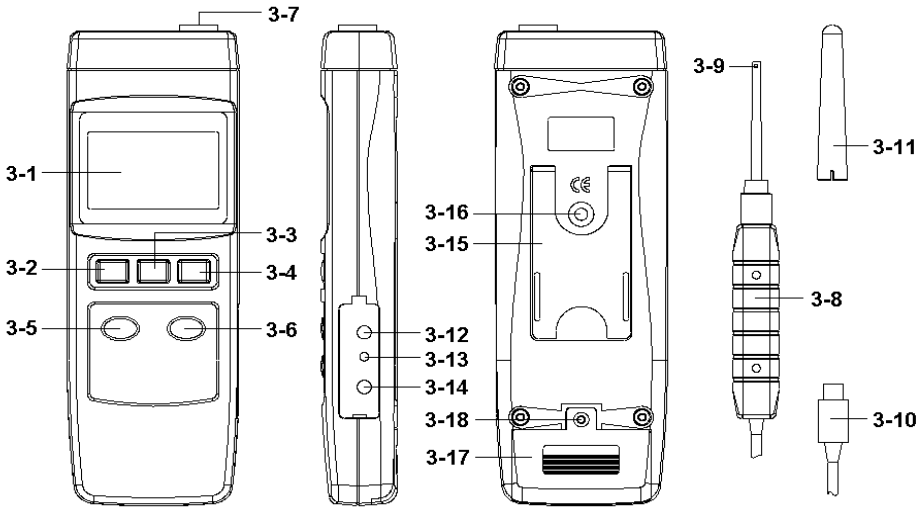

Fig. 1
- 1) Power ON the meter by pressing the " Power Button " ( 3-2, Fig. 1 ) once.
- 2) Press the " Mode Button " ( 3-6, Fig.1 ) once, the Display will show the following screen in sequence :
- \* Before the measurement, fix the probe at the exact position, press the " ZERO Button " ( 3-5, Fig. 1 ) continuously at least two seconds until the display show " 0 " value, in the same time the Display will show the " 0 " indicator then release the finger from the button.
- \* Press the " ZERO Button " ( 3-5, Fig. 1 ) continuously at least two seconds again, the " 0 " indicator will be disappeared and the Display will return to the " no zero " value ( show the environment magnetic field value ).
During the measurement, press the " Hold Button " ( 3-3, Fig. 1 ) once will hold the measured value & the LCD will display a " HOLD " symbol.
- \* The data record function records the maximum and minimum readings. Press the " REC Button " ( 3-4, Fig. 1 ) once to start the Data Record function and there will be a " REC " symbol on the display.
- a) Press the " REC Button " ( 3-4, Fig. 1 ) once, the " REC. MAX " symbol along with the maximum value will appear on the display.
If intend to delete the maximum value, just press the " Hold Button " ( 3-3, Fig. 1 ) once, then the display will show the " REC. " symbol only & execute the memory function continuously.
- b) Press the " REC Button " ( 3-4, Fig. 1 ) again, the " REC. MIN " symbol along with the minimum value will appear on the display.
If intend to delete the minimum value, just press the " Hold Button " ( 3-3, Fig. 1 ) once, then the display will show the " REC. " symbol only & execute the memory function continuously.
Press the " SET Button " ( 3-6, Fig. 1 ) continuously at least two seconds will enter the " Advanced Setting " mode, then press the " SET Button " ( 3-6, Fig. 1 ) once a while in sequence to select the tWO function, the lower Display will show :
- 1) Use the " AC/DC Button " ( 3-5, Fig. 1 ) or " RANGE Button " ( 3-6, Fig. 1 ) to select the upper value to " yES " or " no ".
- 2) After select the desiring function ( YES or no ), press the " REC Button " ( 3-4, Fig. 1 ) to save the function with default.
- 1) Use the " AC/DC Button " ( 3-5, Fig. 1 ) or " RANGE Button " ( 3-6, Fig. 1 ) to select the Display indicator to " mT " or " G ".
- 2) After Display unit is selected to " mT " or " G ", press the " REC Button " ( 3-4, Fig. 1 ) will save the setting function with default.
The instrument has RS232 PC serial interface via a 3.5 mm terminal ( 3-11, Fig. 1 ). The data output is a 16 digit stream which can be utilized for user's specific application. A RS232 lead with the following connection will be required to link the instrument with the PC serial port.